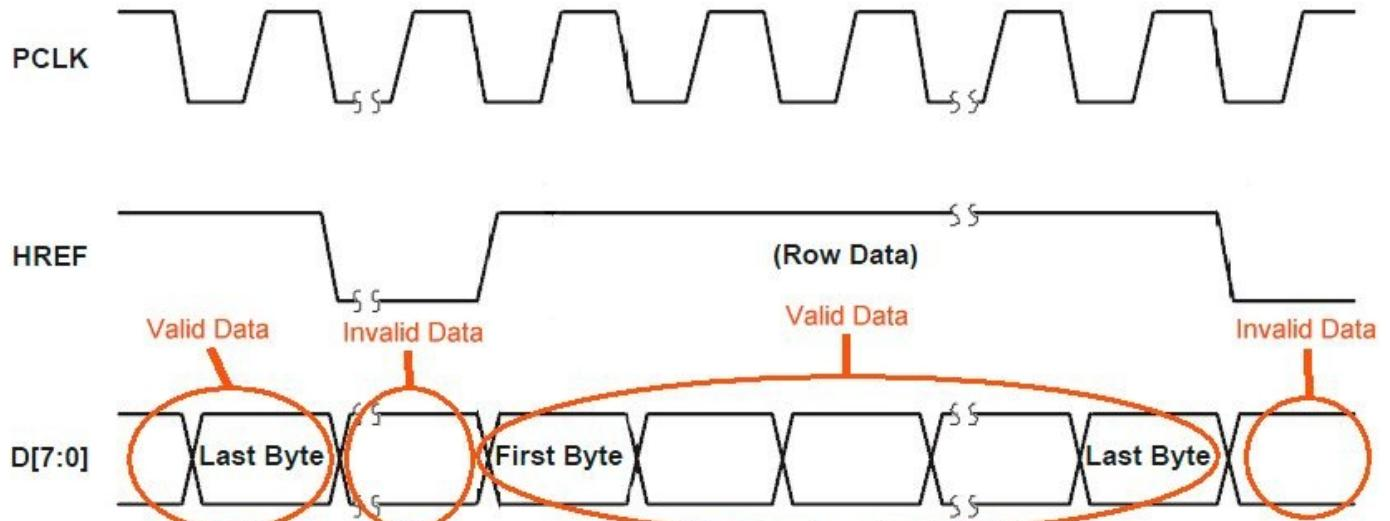

Figure 4-33. The pixel clock
2. The HREF goes high when a valid row of pixels from the video frame is put on the output video port pins of D0-D7. This continues for each row from row 0 to the last row for the image size which is row 479 for a VGA screen resolution (640 by 480). In addition, when the HREF is high the PCLK syncs with the output of the bytes for each row in the image. See Figure 4-33.